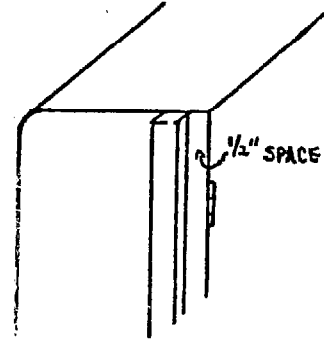

Figure 7
- 7: LEGS:** Cut two 78" lengths from the 2 x 4's and nail with 10-penny nails to the back 1 x 10's, 3/8" from the back edge. This allows the door to open out (Figure 7). Front legs are 11" long in the front, cut off at 60 degrees and nailed to the front angle of the 1 x 4. Notch 3/4" x 4" strip of the plywood to let 2 x 4 sit flush on 1 x 4 (A, Figure 8). Measure 11" for the front legs and cut at 60 degrees so the short edge is 11". Nail front legs to the 1 x 4 with 10-penny nails.